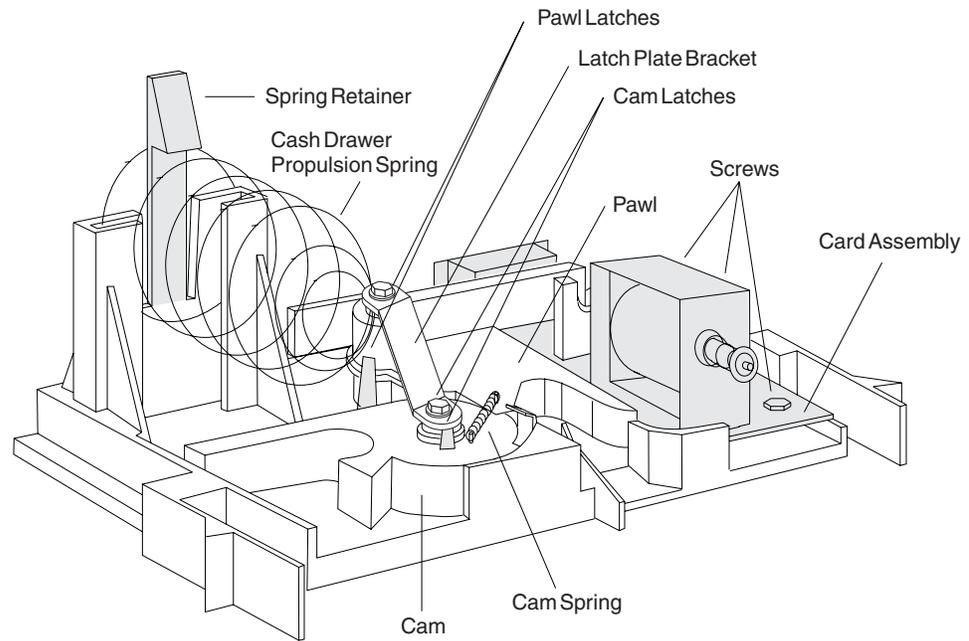

Figure 18. Cash drawer latch and sensor assembly
4. Remove the cash drawer propulsion spring by pushing the spring retainer back then sliding the spring up and out of its mounting slots (see Figure 18).
5. Remove the latch plate bracket by removing the screw in the cam pivot post and the screw in the pawl pivot post (see Figure 18).
6. Remove the cam spring by lifting the ends of the small posts on the cam and the pawl (see Figure 18).
7. Spread apart the two pawl latches that hold the pawl on the pivot post, while lifting the pawl off of the post (see Figure 18).
8. Spread apart the two cam latches that hold the cam on the pivot post, while lifting the cam off of the post (see Figure 18).
- Remove the three screws that retain the card assembly, and remove the card assembly (see Figure 18 on page 19).